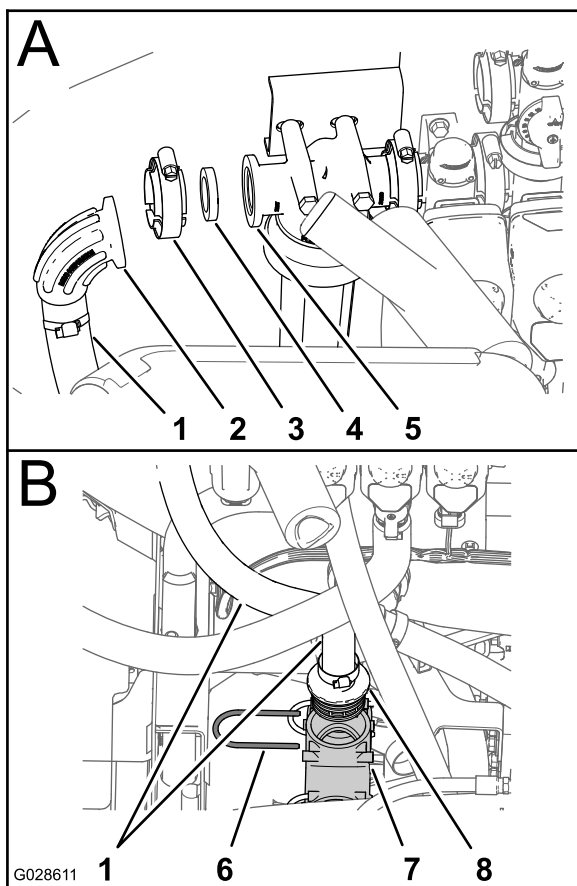

Figure 35
1. Remove the flange clamp, gasket, flanged elbow, and inlet hose from the pressure filter head (A of Figure 35).
- Remove the retainer that secures the straight-hub fitting of the inlet hose to the lower T-fitting of the sprayer system and remove the inlet hose from the machine (B of Figure 35)
- Remove the flanged elbow and hose clamp from the inlet hose (Figure 35).